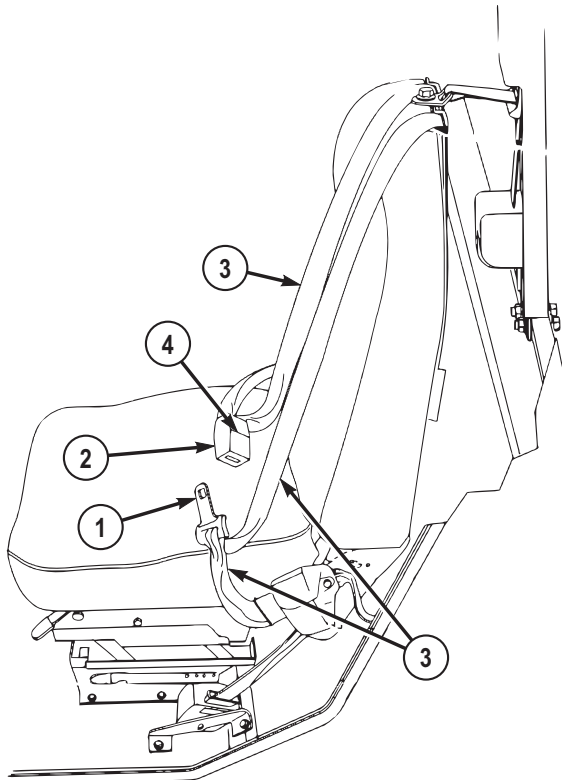

Figure 1.
**ADJUST AIR-RIDE SEAT - Continued***Figure 1.*
2. Move lever (2) away from seat (3) and slide seat (3) forward or backwards.
3. Move lever (2) towards seat (3) to lock seat (3) in place.
4. Pull up lever (4) and lift self off seat (3) to raise, or pull up lever (4) and push down on seat (3) to lower.
5. Release lever (4) to lock seat (3) in place.
1. With aid of an assistant, place tire chain (1) on ground with cross chain connecting links (2) facing down.
**INSTALL TIRE CHAINS - Continued***Figure 1.***NOTE**